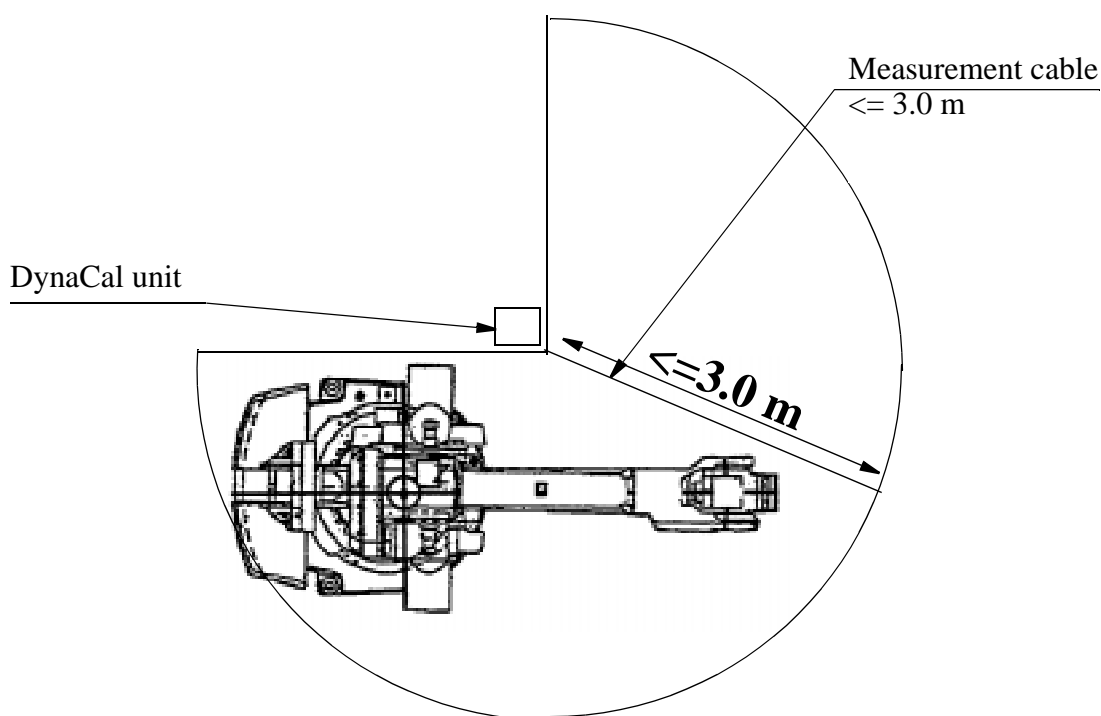
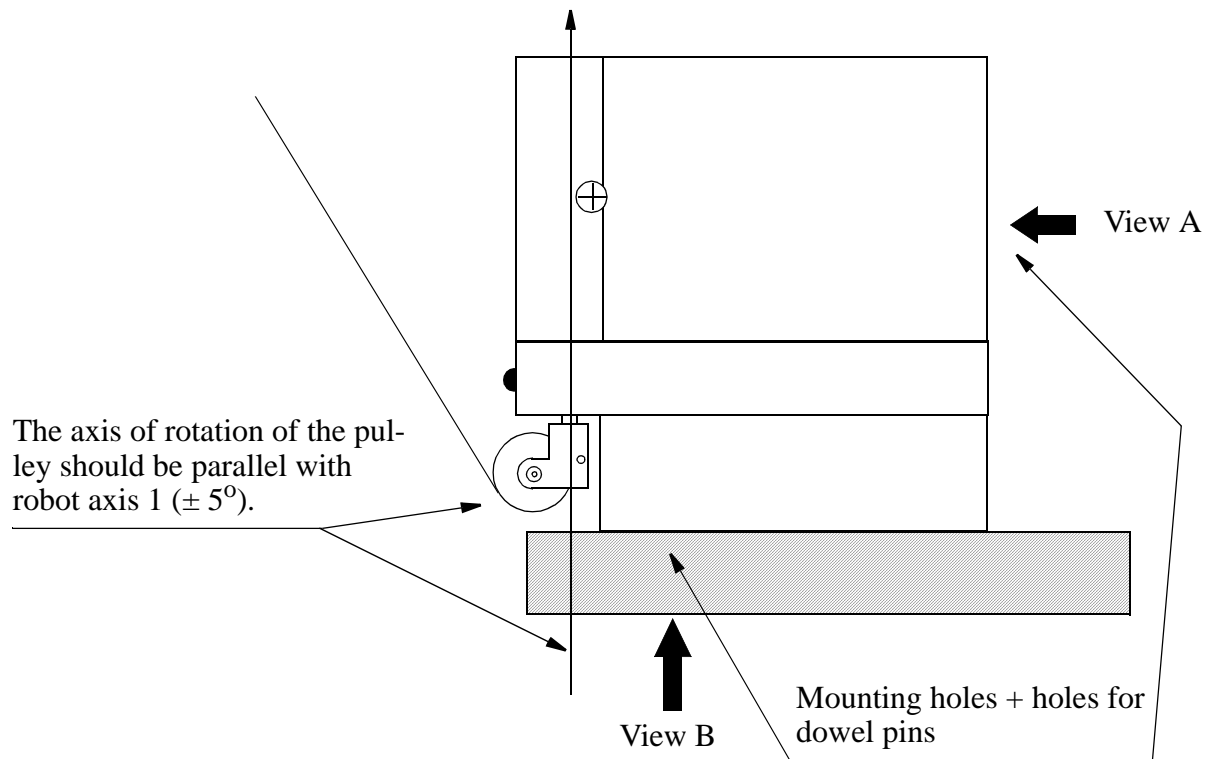

Figure 21 Location of DynaCal unit.
Figure 22 How to mount the unit.
1. Mount the DynaCal Calibration unit inside the working range of the manipulator (see Figure 21 and Figure 22).